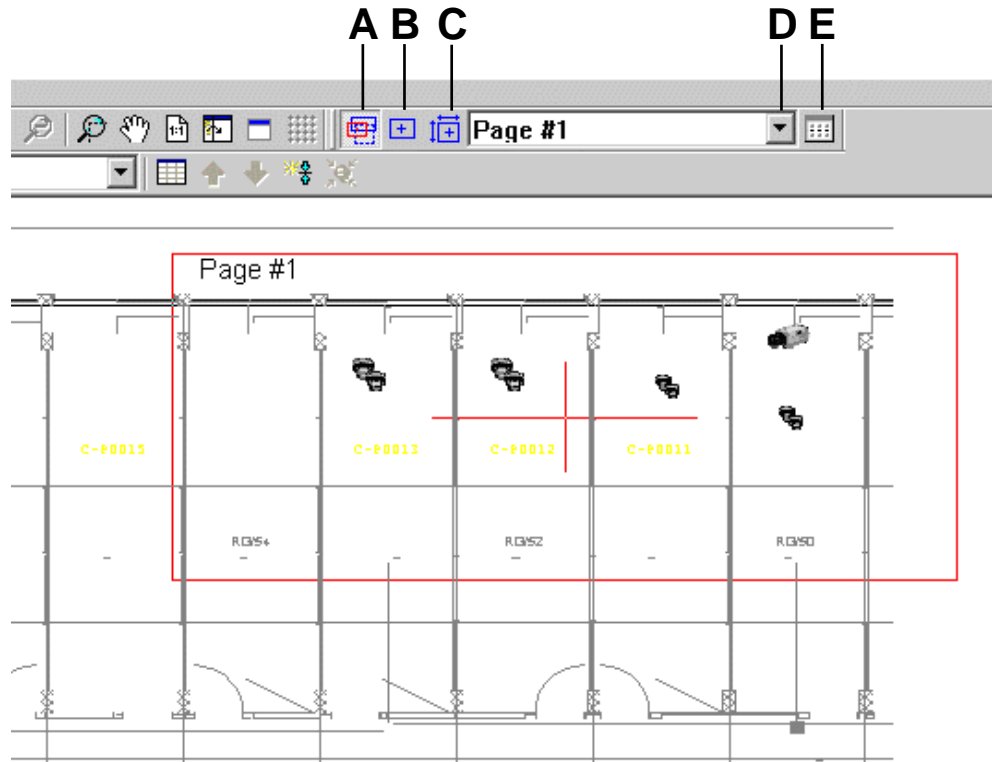

Fig. 20 Manually creating pages
2. Click the Toggle page icon to open page mode. (See “A” in Fig. 20.)
Select the Create icon (see “B” and “C” in Fig. 20.), and then select an area on the page by dragging the red rectangle.
- Click the Open list icon to display the list of configured pages. (See “E” in Fig. 20.)